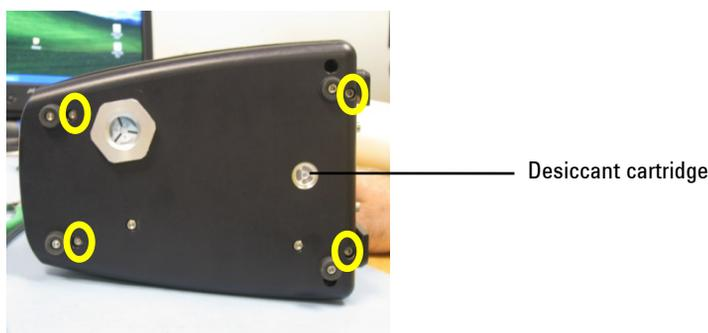

Figure 18. Bottom of Cary 630 FTIR, showing screws to remove (circled)
- 1 Tilt the spectrometer on its side to expose the bottom plate (see Figure 18). There are two visible screws; and two deep, recessed screws securing the instrument. Using the 3/32 ball driver, remove all four screws.